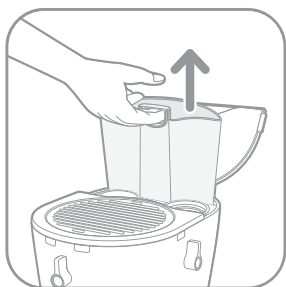

fig.1
Open the lid (a) and remove the water tank using the handle (fig. 1).
- Fill the tank with cold water and place it firmly on the machine, making sure it is firmly in place, (fig. 1, 2 and 3).